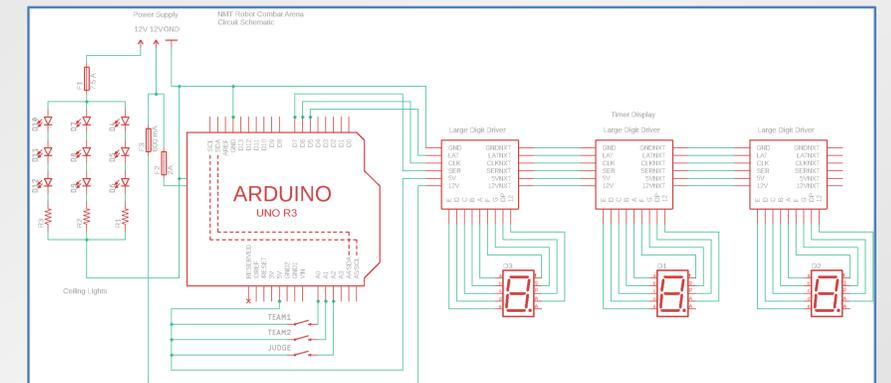

Figure 4. Circuit Diagram for Arena Electronics
- Circuitry for all electronics mapped out (Fig.4)